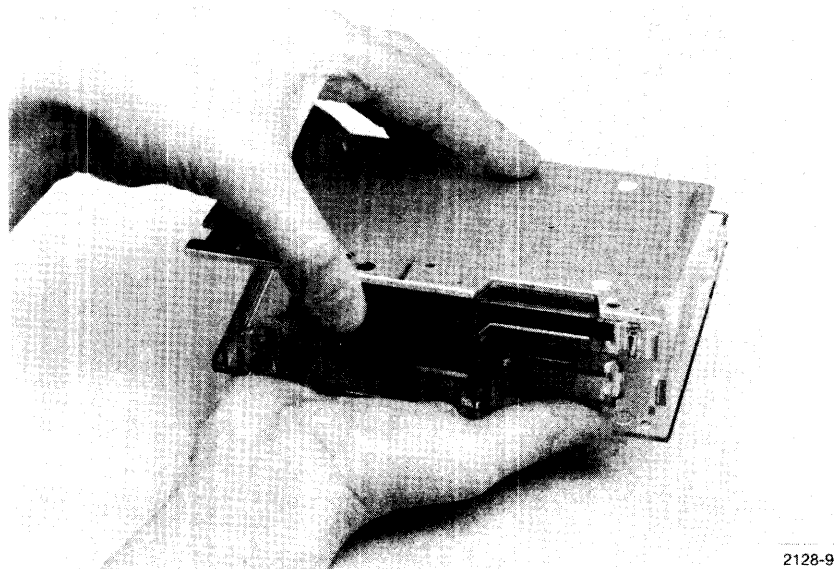

Fig. 2-10. Assembling the cartridge.
6. Make certain that the Write-Protect cylinder is in position, with the spring washer between the cylinder and the metal cartridge base. Position the metal cartridge base over the plastic cover. Be careful not to catch and wrinkle the tape with the plastic case (Fig. 2-10). Install the four attaching screws.